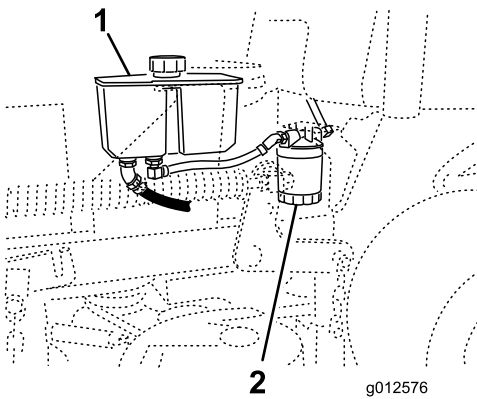

Figure 75
3. Locate the filter and place drain pan under filter (Figure 75).